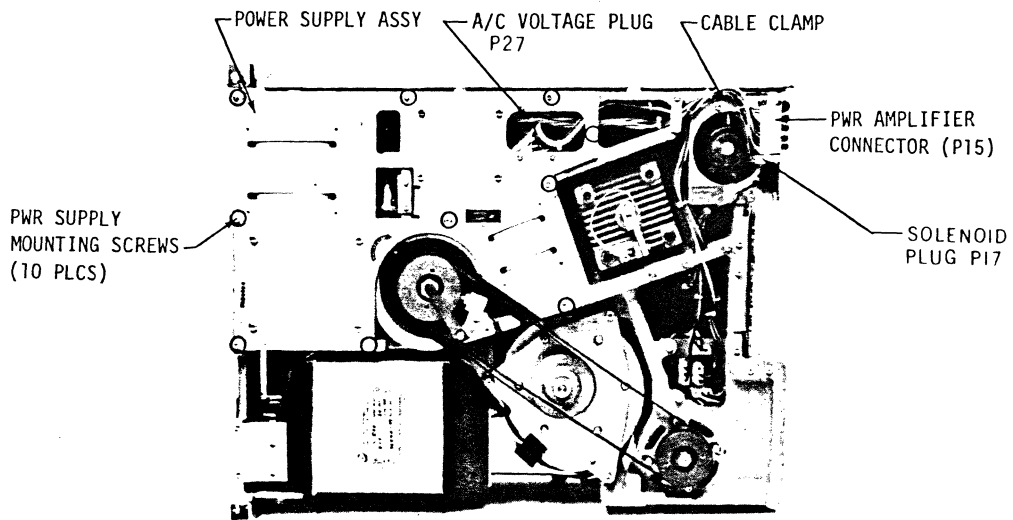
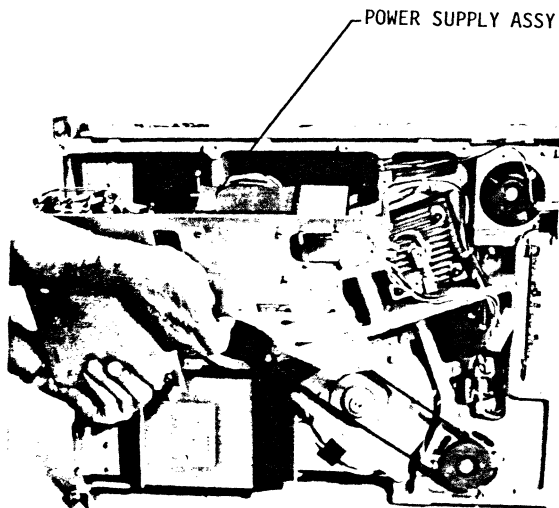

Figure 5-3
Figure 5-4
- b) Remove drive from cabinet and position vertically on left hand side of drive as shown in Fig. 5-3.
- d) Remove the ten power supply mounting screws circled "A" in Fig. 5-3. The power supply can now be removed from the drive. (Fig. 5-4.)